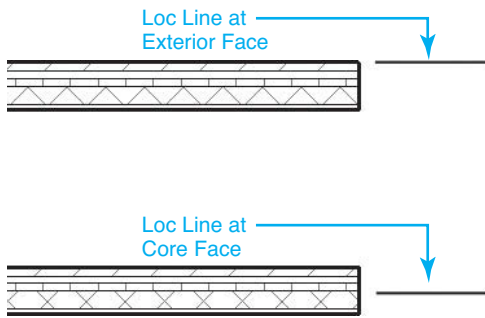

Figure 3-4
14. Notice that the wall is now being drawn in relation to the face of the CMU core. Repeat with all the different **Location Lines** (see Figure 3-4).
17. In the **Options Bar**, check the **Radius** check box, set it to **2'-0"** (2), and then pick the **Rectangle** button.
18. Click a spot, and draw a **15'-0"** (15) rectangle by moving downward to the right, watching the **Listening Dimensions**, and clicking a second time.